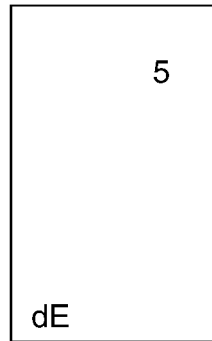

Figure-5.5 Device Type Frame.
The Device Type frame indicates what kind of MicroNet Controller the MicroNet Sensor is connected to. In the example below (Figure-5.5), the five (5) in the upper right corner of the Device Type frame indicates that the connected device is a MicroNet Heat Pump/Fan Coil Controller.